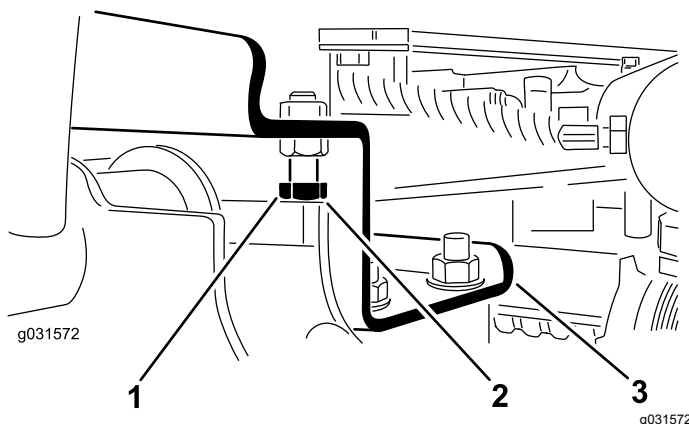

Figure 11
- A. Back off the stop bolts (Figure 11).
2. Ensure that the clearance between each lift arm and stop bolt is 0.13 to 1.02 mm (0.005 to 0.040 inch) as shown in Figure 11.